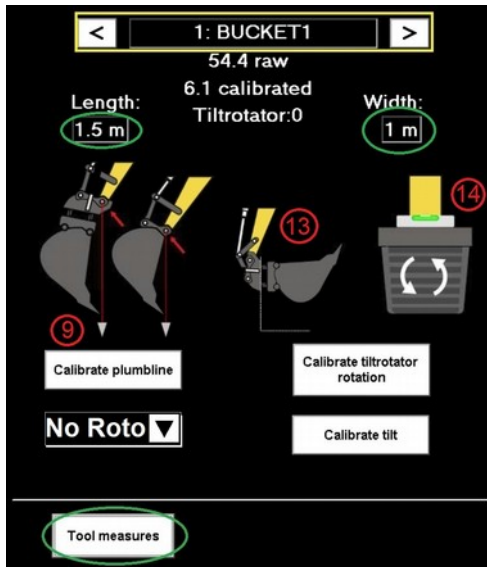

Fig. 34. Bucket calibration
1. Choose the bucket to be calibrated (Use “ ”) (yellow rectangle in Fig 34)